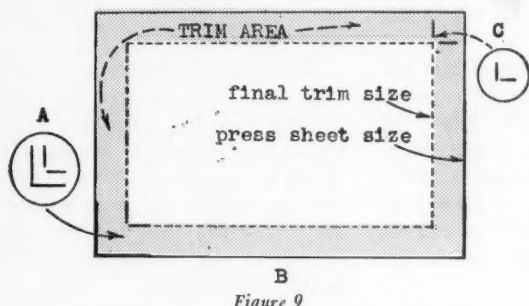

Figure 9
The single trim mark, Figure 9(C) is used at the corner of trim sizes. This mark resembles the press sheet marginal mark somewhat, but differs in that it does not join at the corners. Two regular cut marks ($\frac{1}{8}$ " long) are positioned at each corner of the trim size, one pointing at each edge. Place the marks about $\frac{1}{8}$ " back from the trim size.
used. The use of this mark is illustrated in Figure 9. The mark itself is shown in 9(A) and on a press sheet